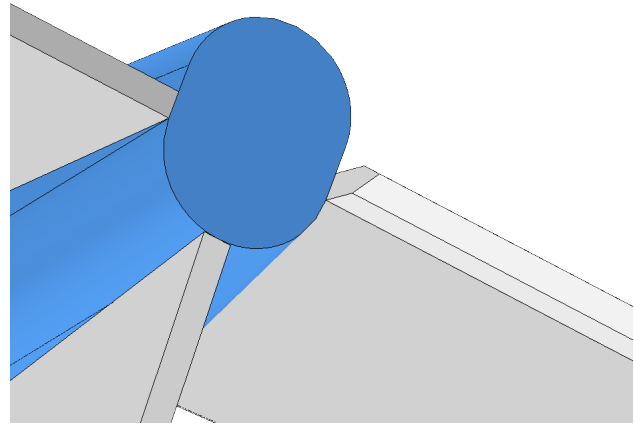

Fig. 12
Step 7. Click Add/Finish Mate  in Mate pop-up toolbar to add a **Coincident** mate, **Fig. 12**.